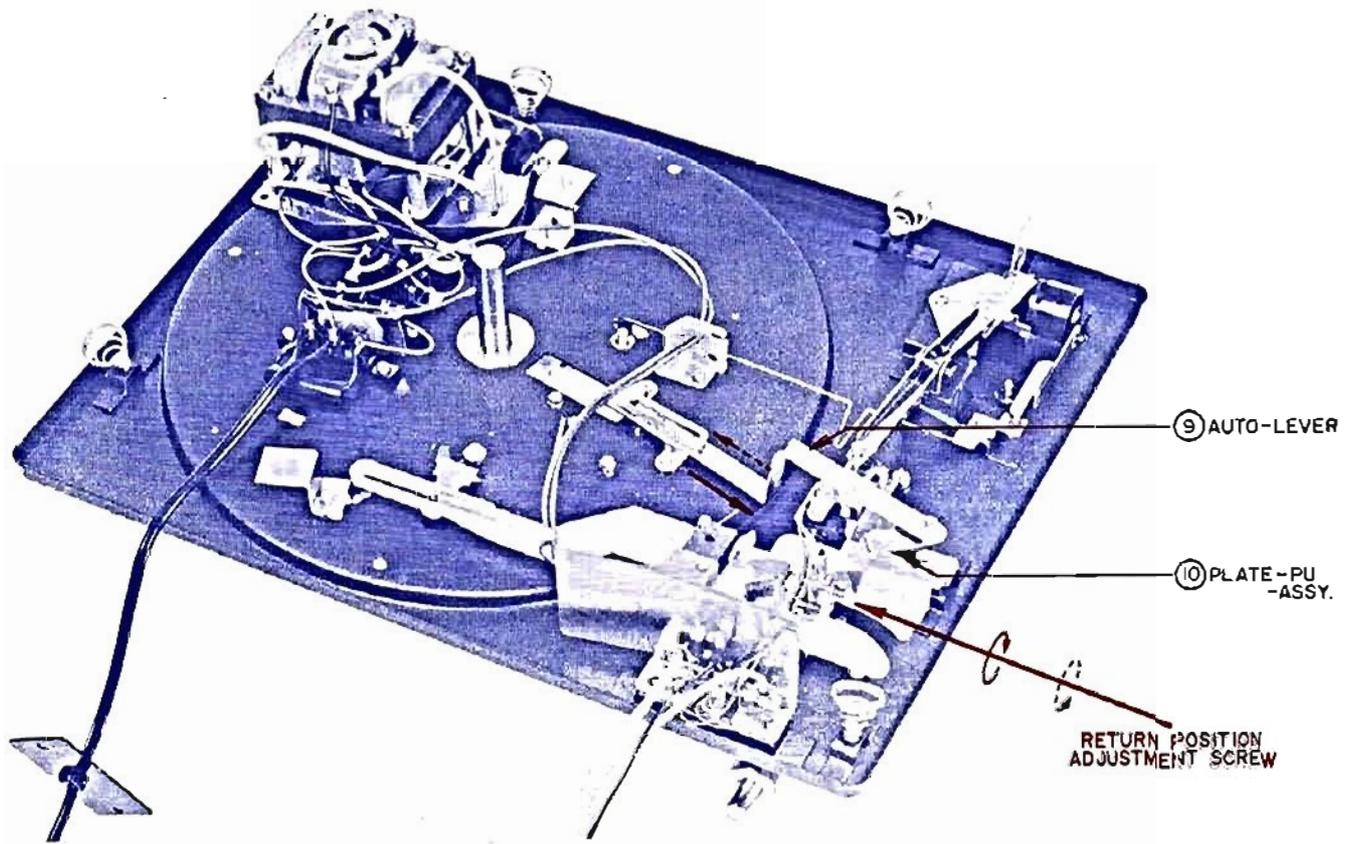

Fig. 14
Remove turntable and loosen the plate holder metal fitting (PLATE LOCK (20)). This can be accomplished after loosening the two installation screws (19) on the table mount 2 or 3 turns. (Fig. 15) Because this separates the table mount and the cabinet by a considerable degree, the return position adjustment screw (18) located on the reverse side of the PU Arm becomes accessible. Adjust with plus driver (Fig. 14) As shown in Fig. 14 when the adjustment screw is turned to the right (in direction of solid line), the return position is slowed (inside circumference approach) and when the adjustment screw is turned to the left (in direction of broken line), the return position is speeded up (outside circumference approach). (When the adjustment screw is turned 1 revolution, the position of the PU Arm stylus tip is changed by about 8 m/m).